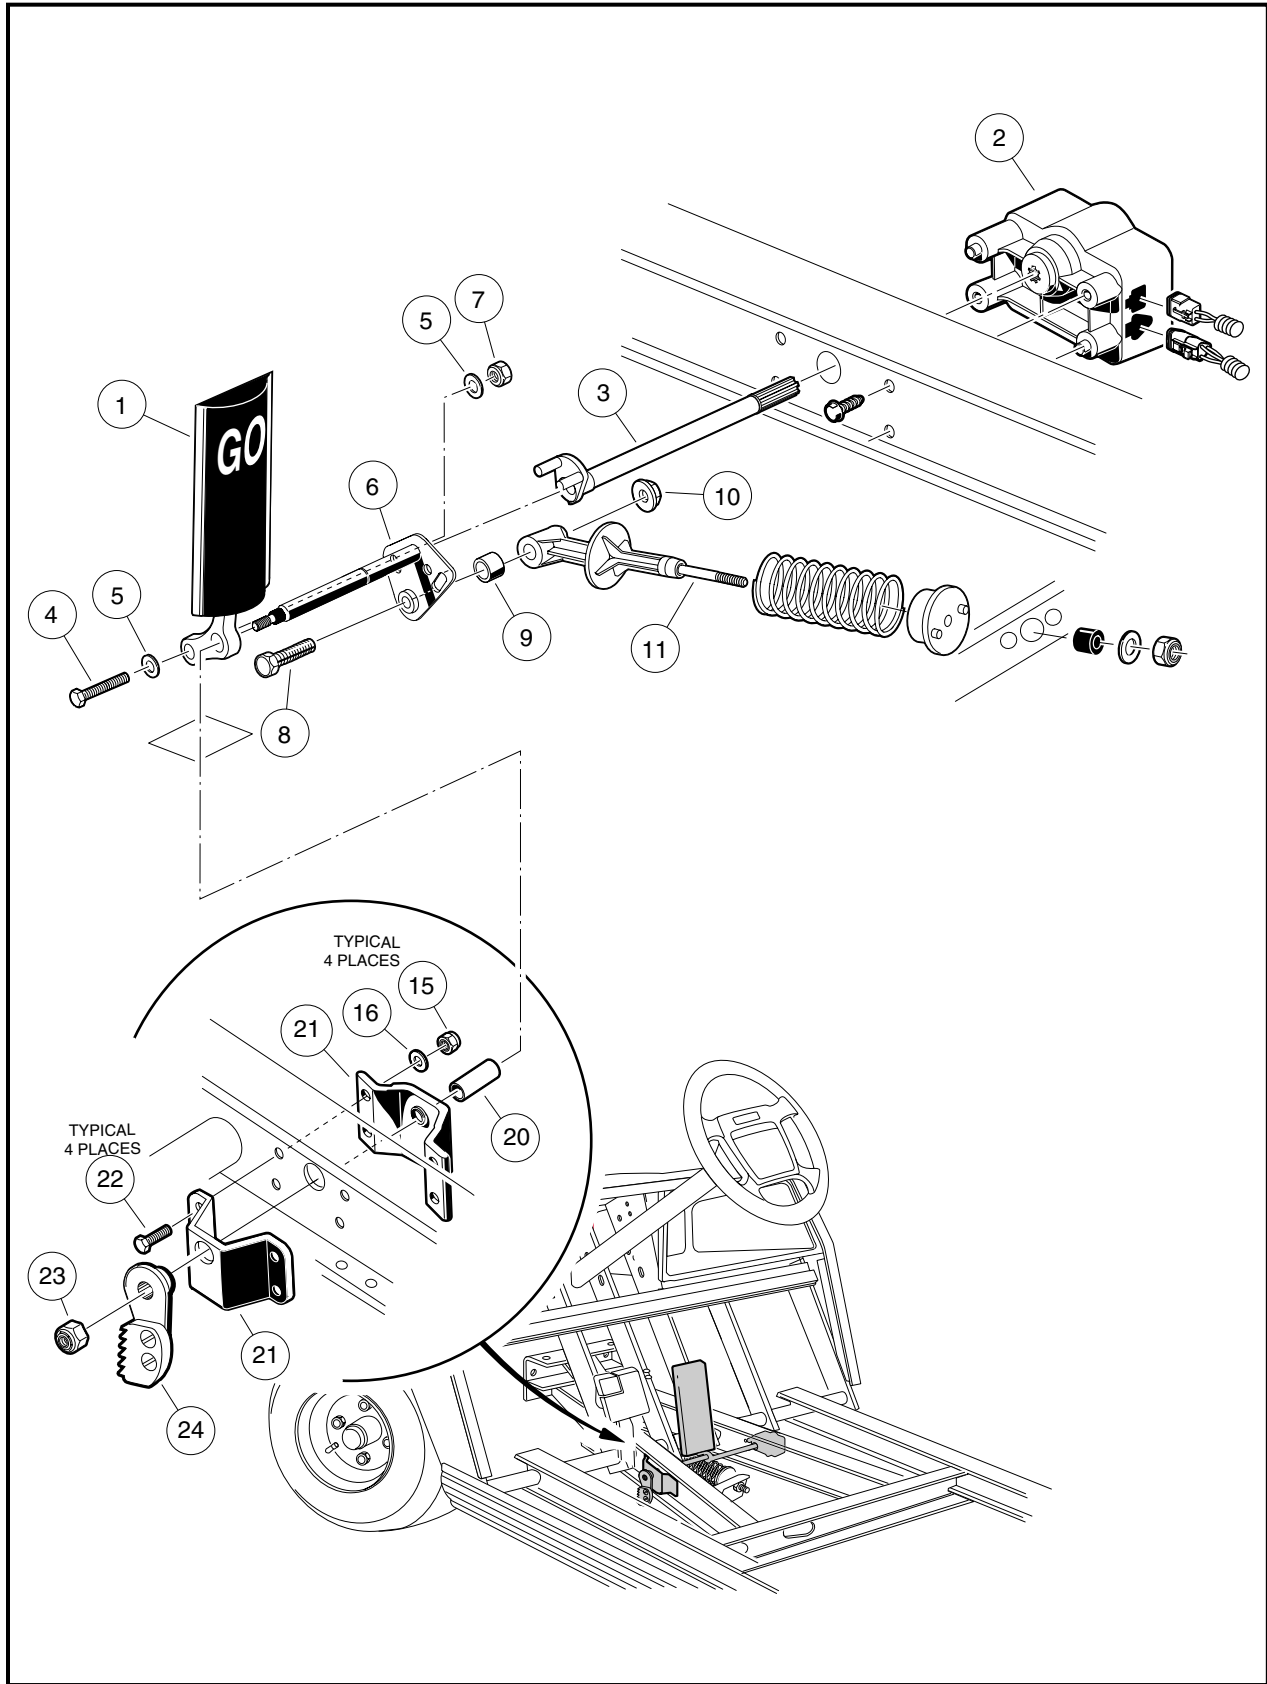

Figure 5-9 Accelerator Pedal – Electric Vehicle with MCOR
3. Remove the MCOR (2) and drive bar (3) as instructed (**Figure 5-9, Page 5-15**). See **MCOR Removal, Section 12, in the PowerDrive Maintenance and Service Supplement**.
4. Using a 9/16-inch socket and 9/16-inch wrench, remove the nut (7), two washers (5), and bolt (4) securing the accelerator pedal (1) to the pivot rod (6) (**Figure 5-9, Page 5-15**).
5. Remove the nut (10) and bolt (8) from the accelerator pivot rod assembly (6).
6. Slide the spring retainer (11) off of the accelerator pivot rod.
7. Inspect the pivot support bearing (9) for wear and replace if necessary.
8. Use a marker to mark the position of the park brake ratchet (24) on the accelerator pivot rod (6). **See following NOTE.**
9. Remove the lock nut (23) from the accelerator pivot rod.
10. Depress the brake pedal slightly and slide the park brake ratchet (24) toward the end of the accelerator pivot rod. Rotate the ratchet and remove it from the pivot rod.
11. Remove the pivot rod (6) and spacer (20) from the accelerator pivot rod supports (21) (**Figure 5-9, Page 5-15**).
12. Inspect the accelerator pivot rod supports (21) for wear and damage and replace as necessary. If the pivot rod supports do not require replacement, loosen, but do not remove, the four bolts (22) and lock nuts (15) to make installation of the pivot rod easier.
13. Remove the accelerator pedal (1) from the vehicle (**Figure 5-9, Page 5-15**).
1. If the accelerator pivot rod supports were replaced, position the supports (21) on the vehicle frame and install the four bolts (22), flat washers (16), and lock nuts (15) (**Figure 5-9, Page 5-15**). finger-tighten nuts at this time.
2. Insert the lower end of the accelerator pedal (1) through the floorboard and install the accelerator pivot rod (6) through the uppermost hole in the pedal.
3. Install plastic spacer (20) on pivot rod (6).
4. Insert the pivot rod through the pivot rod supports (21) on the vehicle frame.
5. Tighten the four bolts (22) attaching the pivot rod supports to the frame to 75 in-lb (8.5 N·m) (**Figure 5-9, Page 5-15**).
6. Insert the bolt (4), two washers (5), and a new lock nut (7) through the lower hole in the pedal and through the pivot rod. Finger-tighten lock nut at this time.
7. Install the bolt (8) through the pivot rod (6) and spring retainer (11). Secure these parts with the nut (10) (**Figure 5-9, Page 5-15**). Tighten the nut to 50 in-lb (5.5 N·m).
11. Install lock nut (23) on pivot rod (**Figure 5-9, Page 5-15**). Tighten to 18 ft-lb (24.5 N·m).
12. Install the MCOR (2) and drive bar (3) as instructed. **See MCOR Removal, Section 12, in the Power-Drive Maintenance and Service Supplement.**